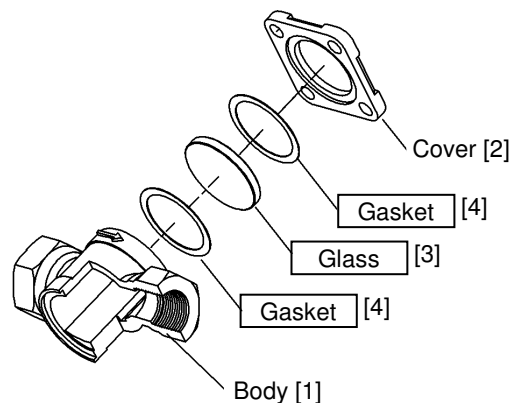

Figure 4
- Attach the gaskets [4], glasses [3], gaskets [4], and covers [2] in this order to the body [1]. (See Figure 4.)